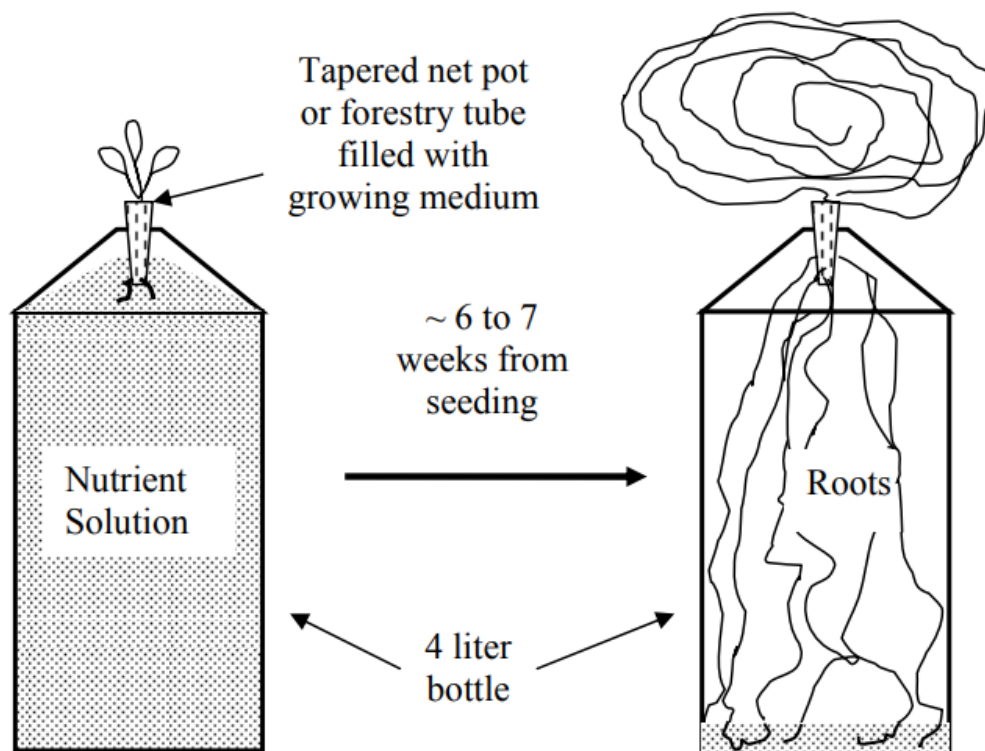

Fig. 2. Lettuce growing in a 4-liter plastic bottle.
**Fig. 2** Fruit yield of field-grown tomato plants from **a** field experiment 1, 90 days after transplantation with eight treatments including seaweed extract made from *A. nodosum* (ASWE) at a concentration of 0.2 % and **b** field experiment 2, 120 days after transplantation with four treatments, including ASWE at a concentration of 0.5 %. Yields are g plant-1 of fresh weight accumulated over several harvests. Data are means±SE ( $n=30$  plants); *different letters* according to Fisher's Least Significant Difference (LSD) test ( $P=0.05$ ); LSD is 372.3 and 306.1 for **a** and **b**, respectively